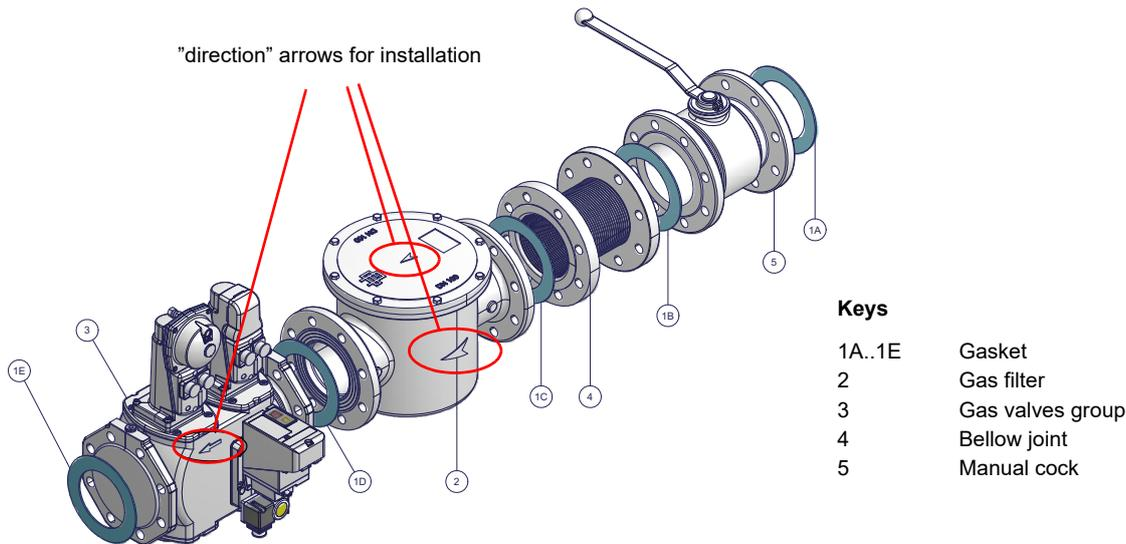

Fig. 2 - Example of gas train
1-b) in case of flanged joints: place a gasket (no. 1A..1E - Fig. 2) between the elements
**ATTENTION:** once the gas train is mounted according to the diagram on Fig. 2, the gas proving test must be performed, according to the procedure set by the laws in force.